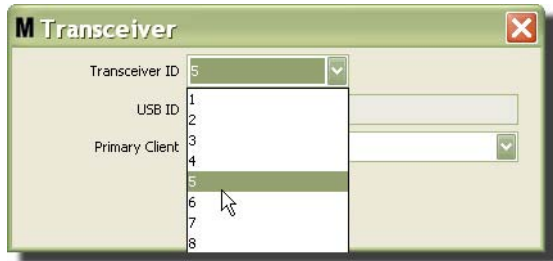

FIG. 105
4. To modify the Transceiver ID, click the arrow to display the drop-down menu. From the drop-down menu select a Transceiver ID number that is not already being used by a Transceiver in the system (FIG. 105). Click OK to close the screen and save the changes.